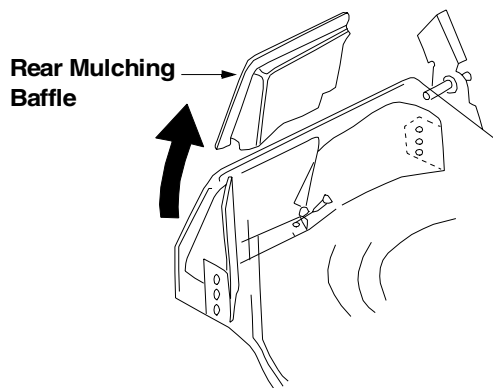

Figure 10
- To remove the mulching baffle, lift the rear discharge door on the mower. Remove the mulching baffle. See Figure 10.
- Lift the rear discharge door and install the mulching baffle. See Figure 10 .